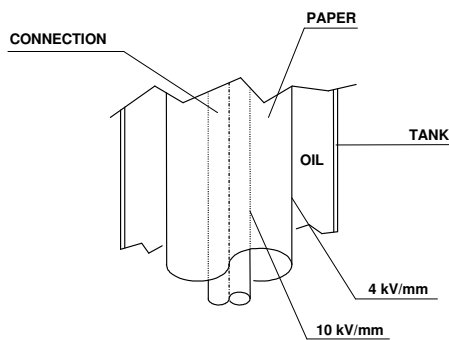

Fig. 7
- Insulate the connection in order to avoid gradient values (calculated at the power frequency withstand voltage) higher than those showed in fig.7;